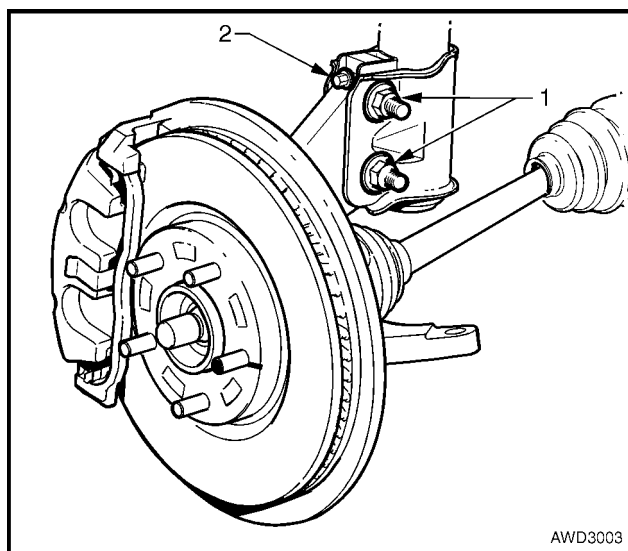

Figure 3B – 10
- 7 If required, adjust the camber by turning the camber adjusting screw ('2' in Figure 3B-10) in the required direction; clockwise to reduce negative camber, anti-clockwise to reduce positive camber.